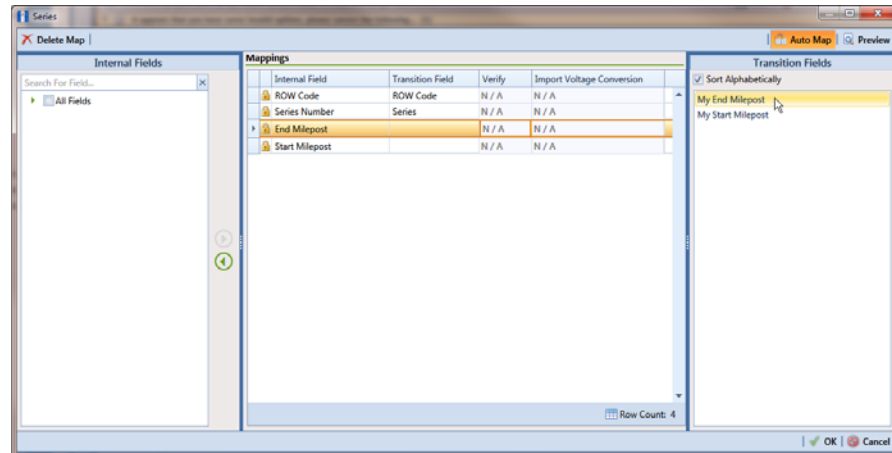

Figure 10-67. Field Mappings
- a Click  **Edit** in the *Maps* group box to open a field mapping window (Figure 10-67, page 554).
NOTE: Fields in the *Mappings* panel with a lock icon  are required fields for mapping, such as *ROW Code*, *Series*, *End Milepost*, and *Start Milepost* shown in Figure 10-67 (page 554).